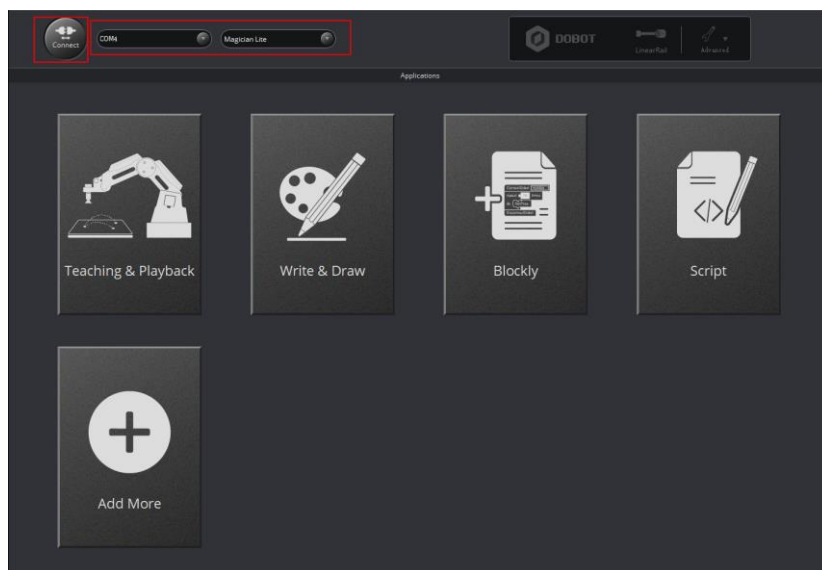

Figure 2.16 Click Connect
Step 2 Click **Connect** on the DobotStudio page, as shown in Figure 2.16. Select **Magician Lite** in device type box (if using Magic Box, you need to select **Magic Box+Magician Lite**) and click **Connect**.